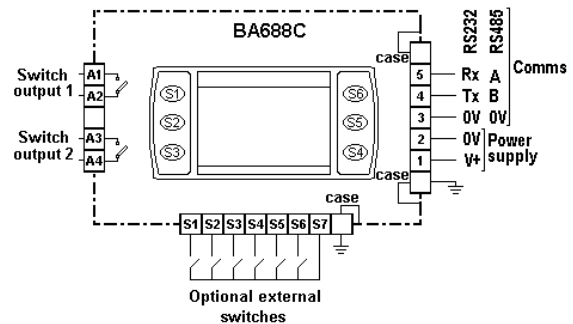
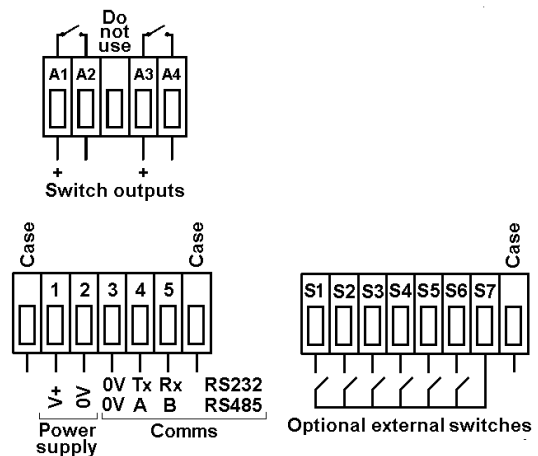

Fig 1 Simplified block diagram of BA688C
Fig 4 Installation and terminal connections
Fig 1 shows a simplified block diagram of a BA688C serial text display. Two versions are available, one has an RS232 port and the other an RS485 port. The type of port is shown on the label adjacent to rear terminals 3, 4 and 5. The two switch outputs may be controlled and the operator push-buttons interrogated via the serial communication link.
Figure 1 shows a functional block diagram of BA688C serial text display. Terminal locations are shown in Fig 4.
- Fix panel mounting clips to opposite sides of the instrument and tighten until the instrument is secure as shown in Fig 4. Four clips are required to achieve an IP66 seal between the instrument enclosure and the panel.
- Connect the panel wiring to the rear terminal block(s) as shown in Fig 4. To simplify installation, the terminals are removable so that panel wiring can be completed before the instrument is installed.